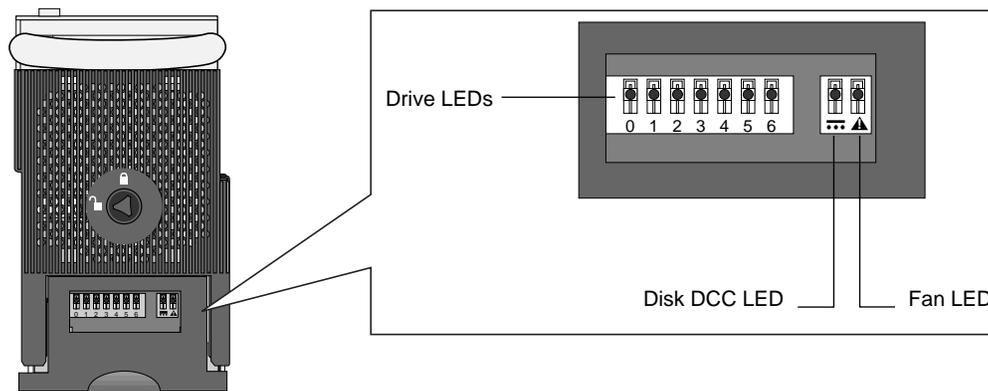
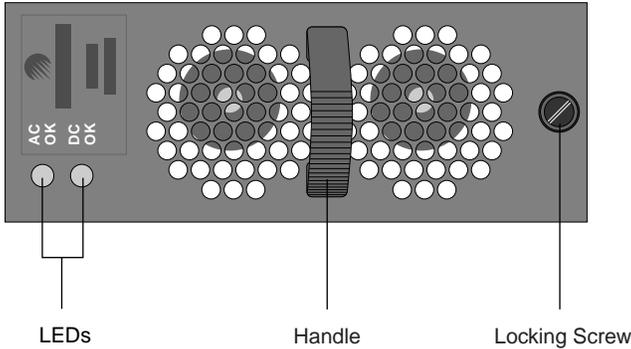

Figure 7. Drive drawer LEDs (drive drawer front panel)
Figure 8. Bulk power supply LEDs
15. Check the LEDs on the front of the drive drawers, as well as the bulk power supply LED status indicators, to verify operation (Figure 7 and Figure 8).